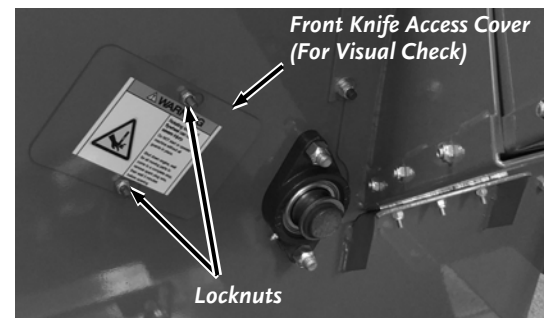

Figure 48
1. Loosen the Locknuts that secure the Front Access Cover with a 7/16" Wrench (**Figure 48**). Move the Cover over to align the larger portion of the hole with the Locknuts and remove the Cover.